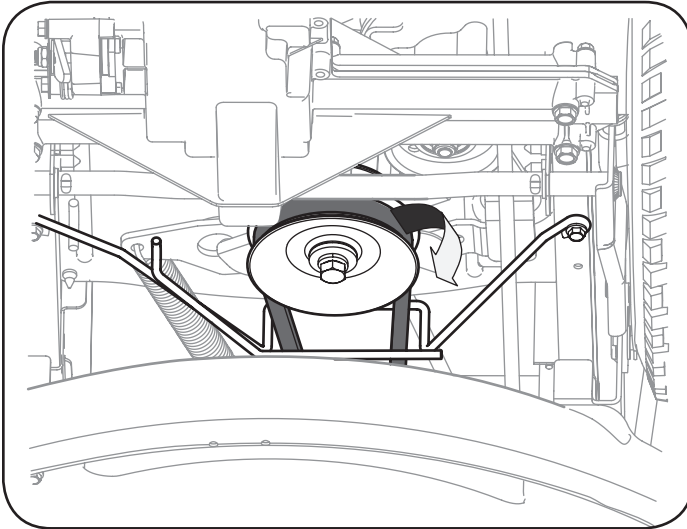

Figure 38
3. Remove the belt from around the tractor's PTO pulley. See Figure 38.
3. Remove the deck belt from around the unit's PTO drive pulley as shown in Figure 38. Simply roll one side of the belt off of the pulley and then work it off the pulley by continuing around the pulley until the belt is off of the pulley.
4. Pull the belt towards the front of the unit, pulling it through and out of the belt keeper bracket, shown in Figure 38.
8. Feed the deck belt through the belt keeper bracket and work it around and onto the PTO drive pulley as shown in Figure 38.